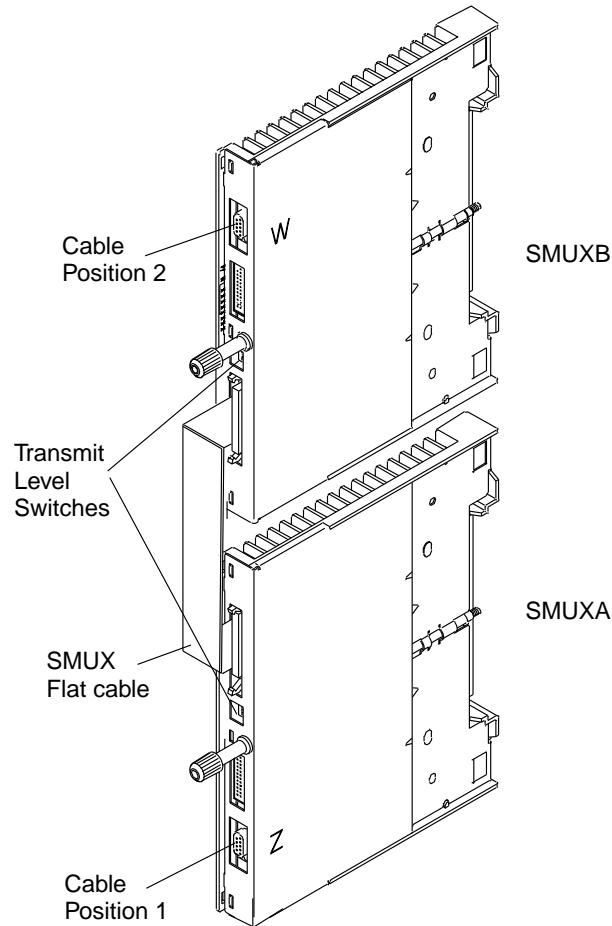
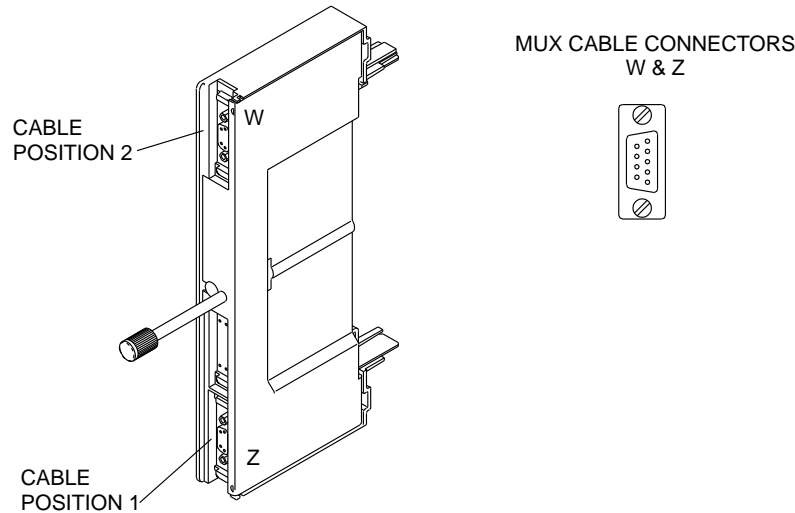

Figure 1-15. SMUX Cards. (This shows the SMUXA and SMUXB cards when two LIB2 boards are installed. Only SMUXB is used if a single LIB2 is present.)
Figure 1-17. DMUX Card
Step 4. ____ Locate the transmit level switches on each SMUXA/SMUXB card installed (see Figure 1-15). Set the transmit level switches to the correct value for your country according to the table in Figure 1-16.
- Step 1. ____ Remove the DMUX card cover on the left of each LIB1 board, and locate the DMUX card in column B of each LIB1 board (see Figure 1-17).
- Step 3. ____ Configure the LA-to-MUX cables according to the 'DMUX or SMUX position' column of *Page YZ 839*. See Figure 1-17 and Figure 1-15 on page 1-14 for the socket locations.